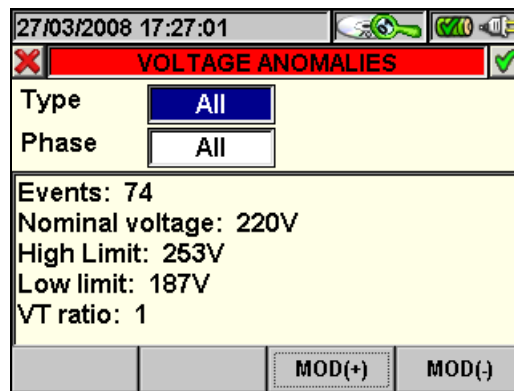

Fig. 123: Voltage Anomalies
- The **F2** key (or the **PARAM** item on the display) accesses the page showing the settings for voltage anomalies (Fig. 123).